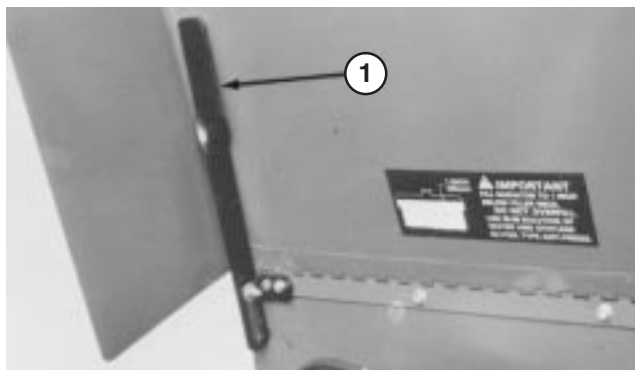

Figure 14
3. Slide bottom of hood prop out of retaining bracket (Fig. 14). Lower hood prop, pivot upward, then downward to prop up hood.